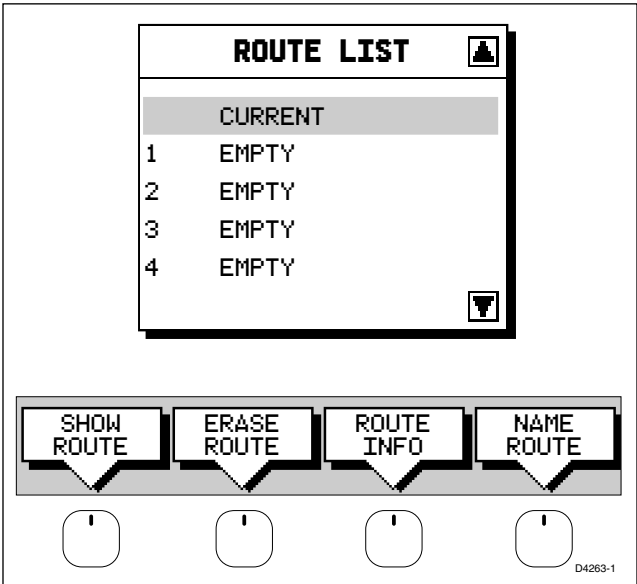

Figure 5-6: Route List Window
1. Press the **ROUTE** soft key, followed by **MORE**, then press **ROUTE LIST**. The route list is displayed as illustrated in *Figure 5-6*. The selection bar indicates the selected route.